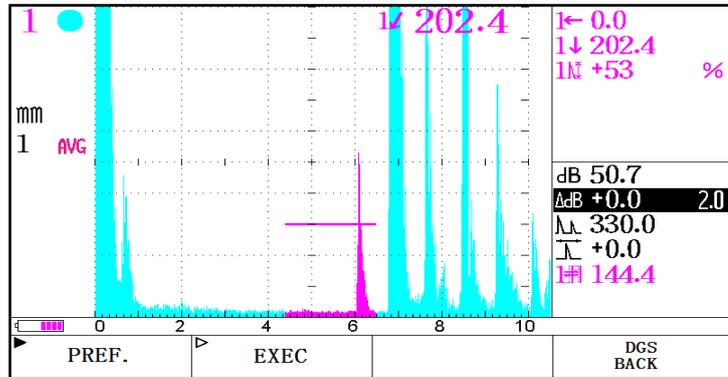

Figure 28. The AVG Curve Menu Screen
2. Press (AVG) to access the main menu for creating the AVG Curve (Figure 28, below).
4. To return to the AVG Curve menu screen (Figure 28, below), press (PREF).